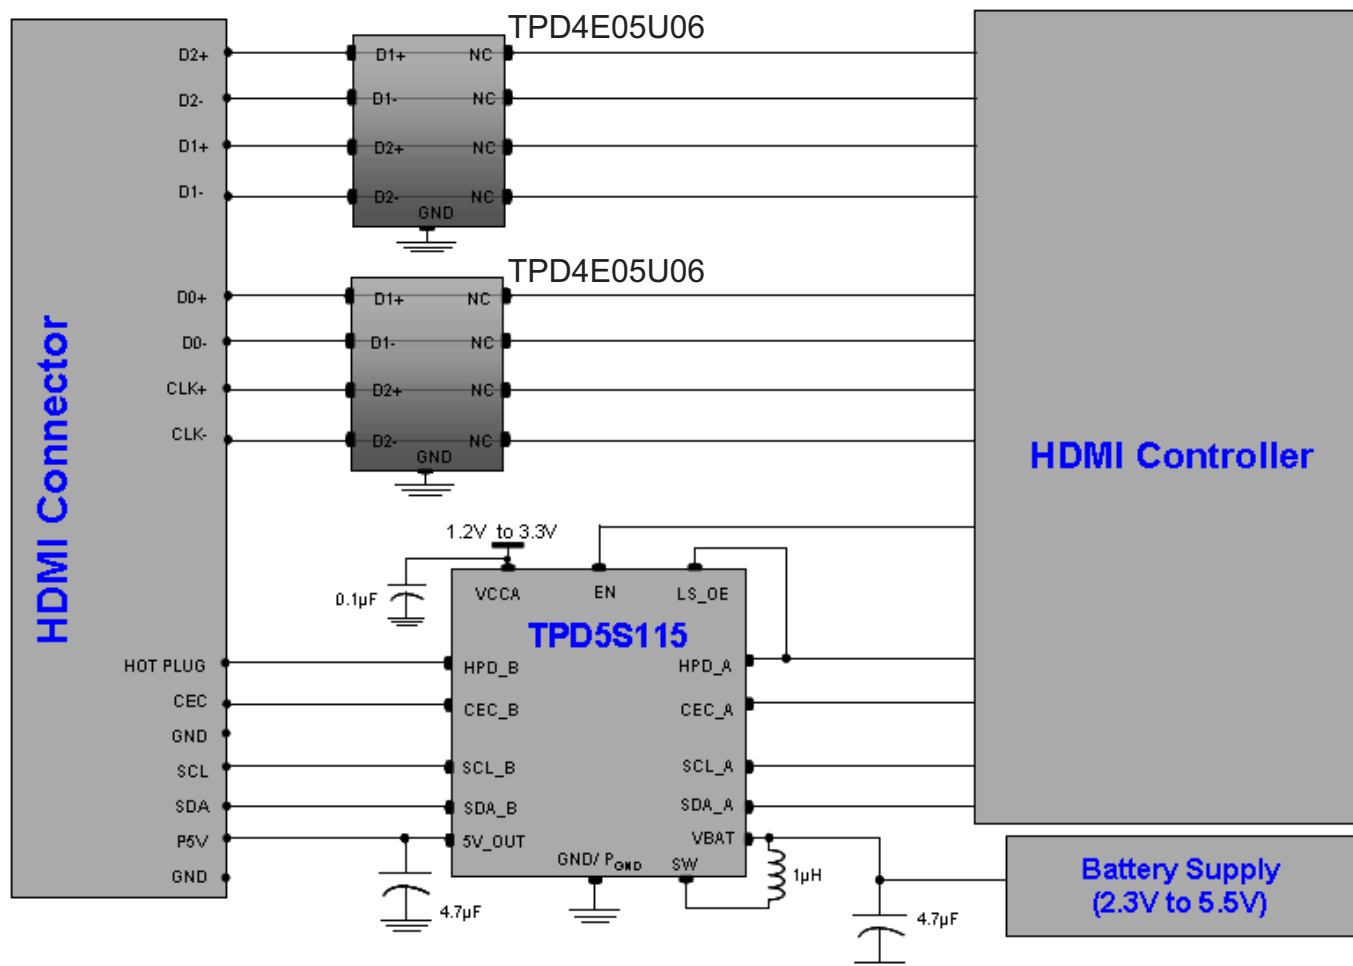

Figure 1. Application Schematics for HDMI Controllers with one GPIO for HDMI Interface Control
Some HDMI controllers may have only one GPIO to control the HDMI interface. Refer to Figure 1, HDMI Driver Chip is controlling the TPD5S115 via only one control line (EN). In this mode the HPD_A to LS_OE pin are connected shown in the above oval dotted line.